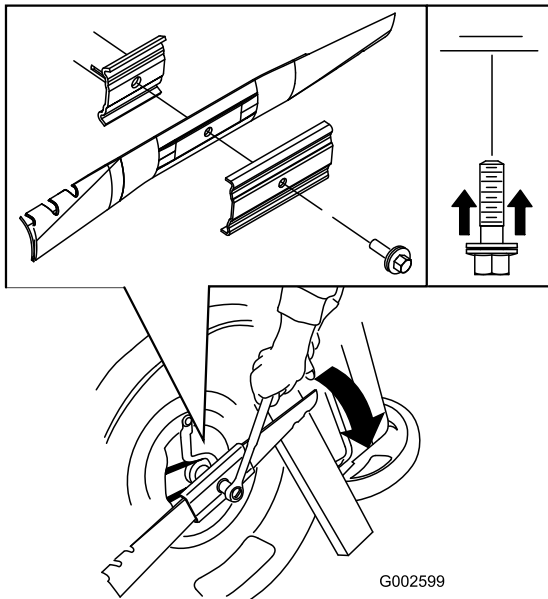

Figure 41
3. Use a block of wood to hold the blade steady (Figure 41).
4. Remove the blade, saving all mounting hardware (Figure 41).
5. Install the new blade and all mounting hardware (Figure 41).